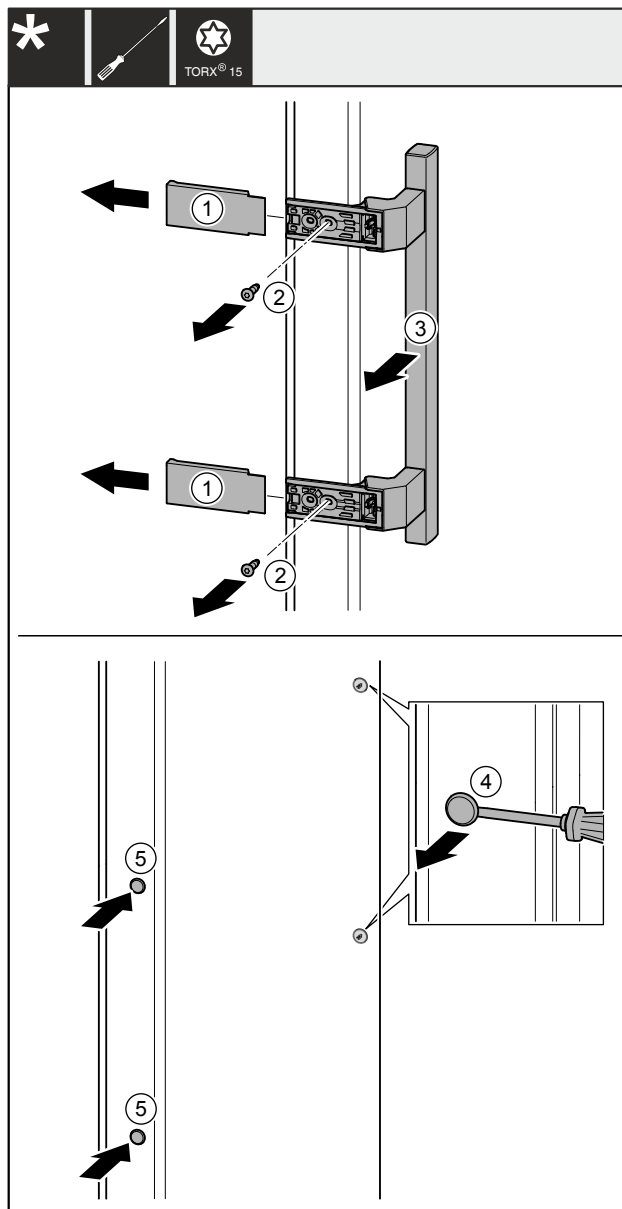

Fig. 41
- ▶ Remove the covers Fig. 41 (1).
- ▶ Unscrew screws Fig. 41 (2) with screwdriver.
- ▶ Remove the handle Fig. 41 (3).
- ▶ Use a slotted screwdriver to lift the side plug Fig. 41 (4) carefully and pull it out.
- ▶ Re-insert the plug Fig. 41 (5) on the other side.